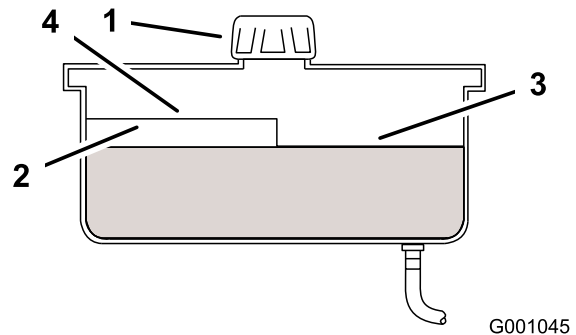

Figure 53
- Clean the area around filler neck of hydraulic tank (Figure 53).
- Remove the cap from the filler neck. Look inside to check if there is fluid in the reservoir (Figure 53).
Note: The fluid level should be to the top of the hot level of the baffle, when the fluid is hot (Figure 53).